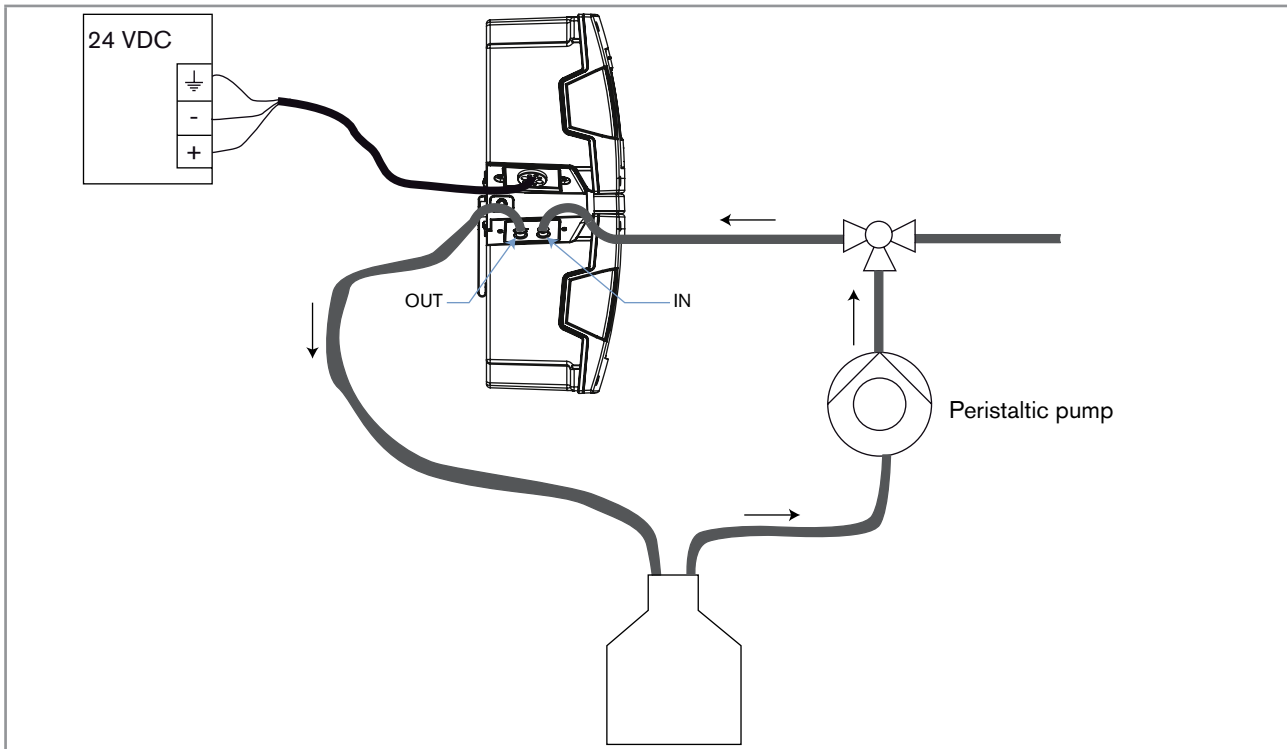

Fig. 4: Installation for the calibration of the product in a system type 8905
1. Connect a peristaltic pump in the water sample inlet circuit of the system, as shown in Fig. 4. If the fluidic connections are not done correctly, the product and the system can be damaged because the pressure in the product and in the system is too high.